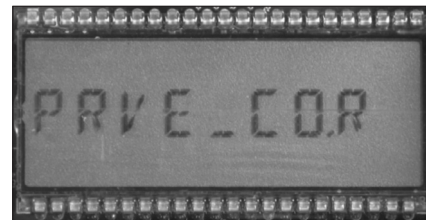

Figure 5 - LCD screen displays **PRVE_CO.R**
- C. Hold the magnet for about five seconds on the word "swipe" until the display changes to **PRVE_CO.R** (Figure 5).